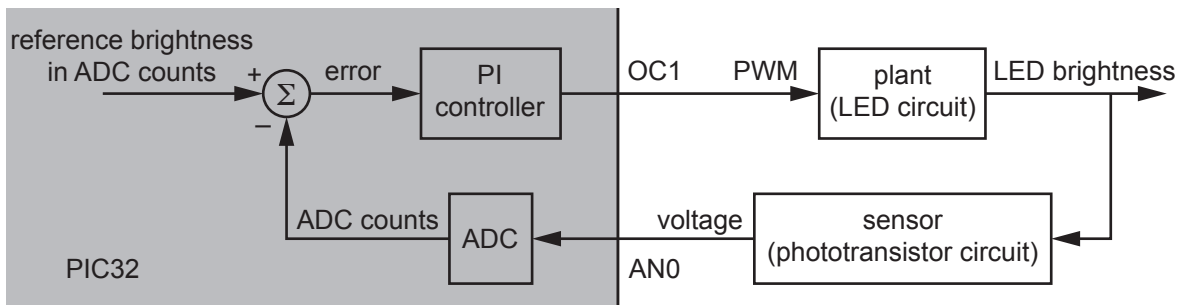

Figure 12.2: A block diagram of the LED brightness control system.
A block diagram of the control system is shown in Figure 12.2. The PIC32 reads the analog voltage from the phototransistor circuit, calculates the error as the desired brightness (in ADC counts) minus the measured voltage in ADC counts, and uses a proportional-integral (PI) controller to generate a new PWM duty cycle on OC1. This in turn changes the average brightness of the LED, which is sensed by the phototransistor circuit. This is a typical control system block diagram: the *plant* is the system we are trying to control, and the sensor provides the feedback that allows us to close the feedback control loop.